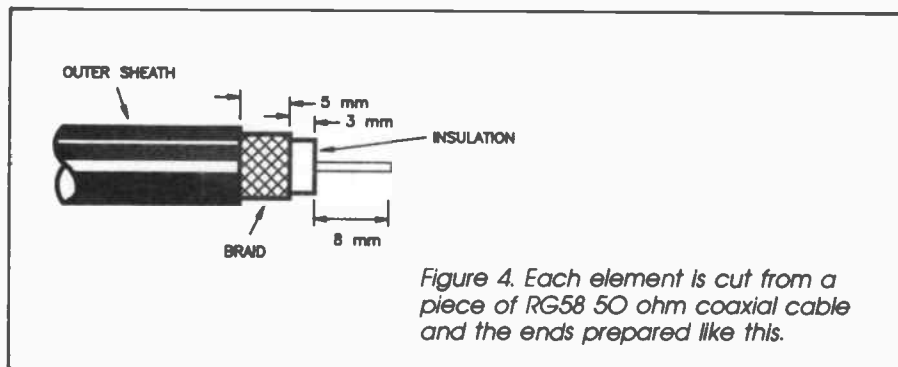

Figure 4. Each element is cut from a piece of RG58 50 ohm coaxial cable and the ends prepared like this.
3) Prepare each end of seven elements, and only one end of the eighth element, as detailed in Figure 4. The eighth element will become the 'top' element of the antenna.
6) With the ends of all the elements prepared as per Figure 4, now tin the exposed centre conductor and shield braid on each. Use a hot iron, preferably a temperature controlled type. A flat-faced ('spade') tip is best for this job. Apply the tip to the part to be tinned
10) Now for the feedpoint and groundplane. You'll have a short length of RG58 left over. Attach a suitable in-line connector, such as a BNC male, to one end and prepare the other end as per Figure 4.